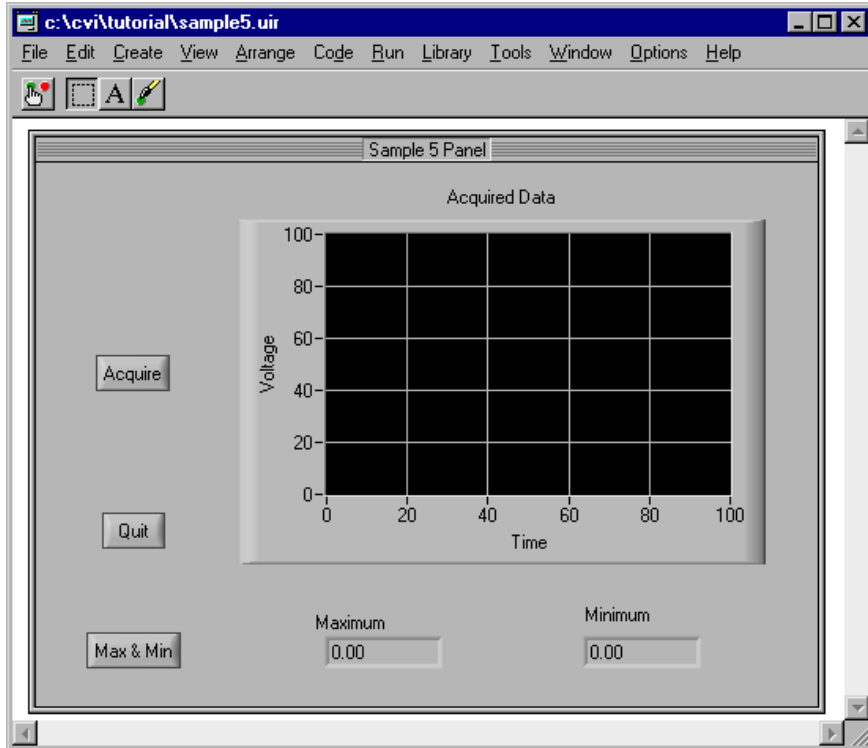

Figure 7-1. Sample User Interface
2. Without closing the `sample5.c` source code, return to the Project window and double-click on the `sample5.uir` filename in the Project window to open the User Interface Editor. Your goal is to modify the `.uir` to match the user interface shown in Figure 7-1.
10. Position the two new controls on the user interface to match those shown in Figure 7-1.